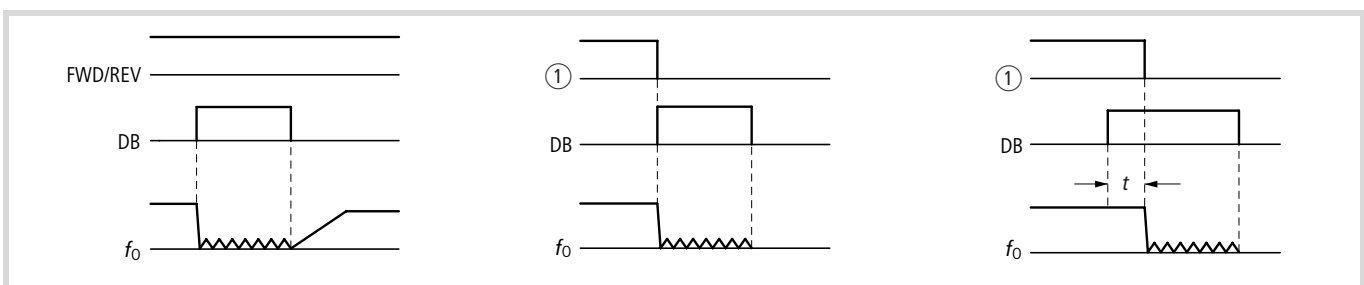

Figure 141: Function chart for DB (DC braking)
① Start signal through keypad
- ▶ In PNU A053, enter a delay time  $t$  (→ fig. 141) from 0 to 5.0 s, which is to expire before DC braking takes effect after activation of the DB input.